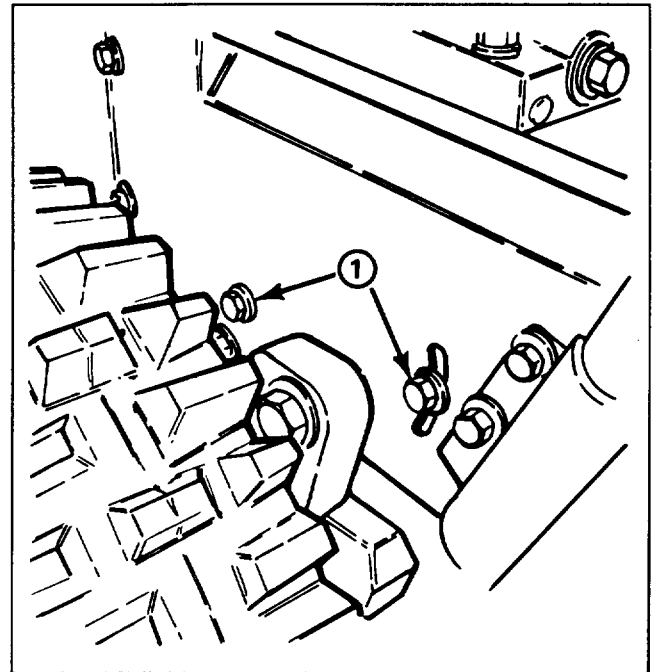

Figure 31
3. Loosen (4) flange head capscrews (2 each side) securing transmission frame to engine frame (Fig. 31).